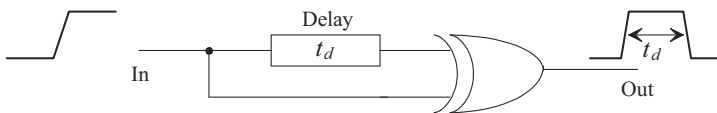

Figure 12.27 An edge detector circuit.
- 12.10** The circuit shown in Fig. 12.27 is an edge detector. Discuss, and simulate, the operation of the circuit.